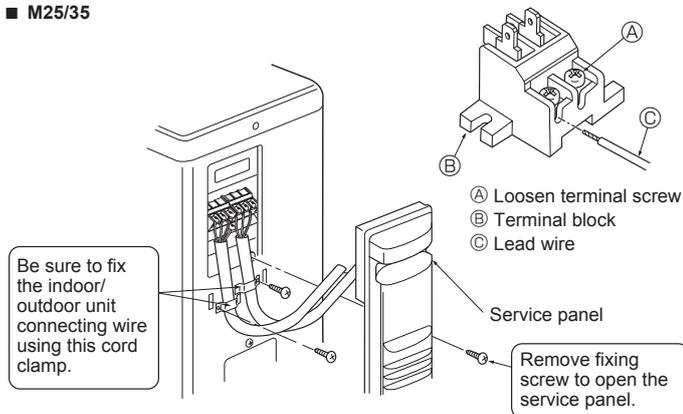

Fig. 6-3
### 6.1. Outdoor unit (Fig. 6-1, Fig. 6-2, Fig. 6-3, Fig. 6-4)
- ① Remove the service panel.
- ② Wire the cables referring to the Fig. 6-1, Fig. 6-2, Fig. 6-3 and the Fig. 6-4.